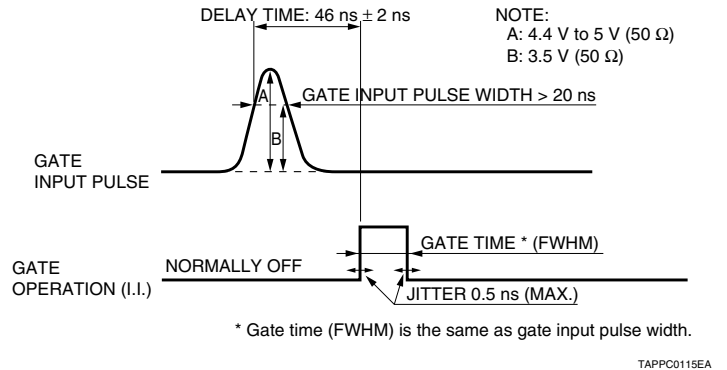

Figure 3: C9546 · C9547 Series
NOTE: (A) Please refer to Figure 1 and Figure 3.